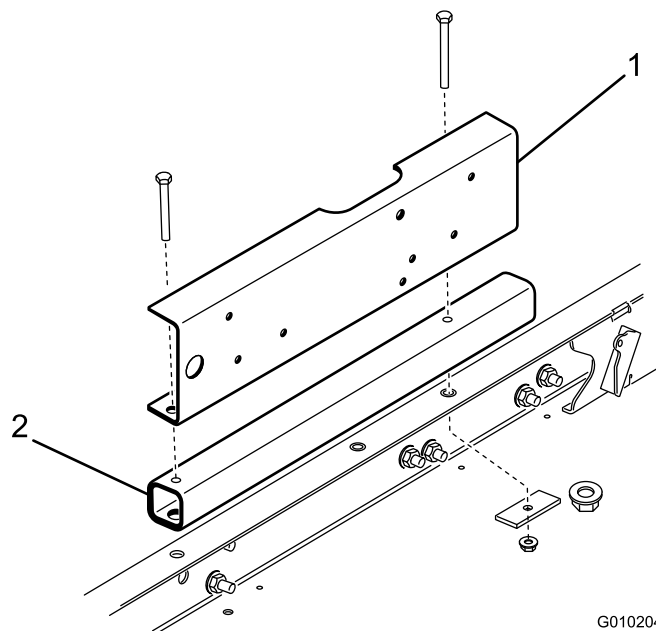

Figure 13
3. Position a spacer tube onto each frame channel aligning mounting holes with holes in frame (Figure 13).
4. Position lift onto spacer tubes aligning mounting holes with holes in tubes (Figure 13).
5. Mount the rear of each side of lift to the frame channels with a reinforcing plate, (2) 3/8-16 x 3-1/2
inch flange head capscrews and flange nuts. Use the (2) 3/8-16 x 3 inch flange head capscrews in front mounting holes (Figure 13).